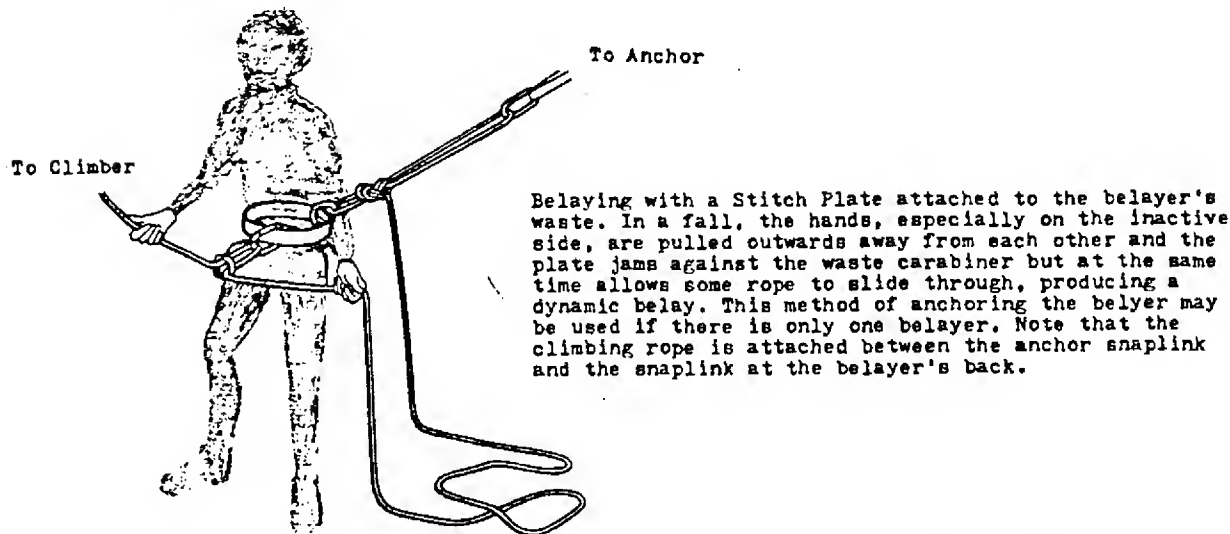

Figure 244 Securing Belay Rope Between the Belayer and Belayer's Anchor
7. The belay rope is then handed to a "back-up belayer" or it may be secured between the belayer and the belayer's anchor as shown in Figure 244.